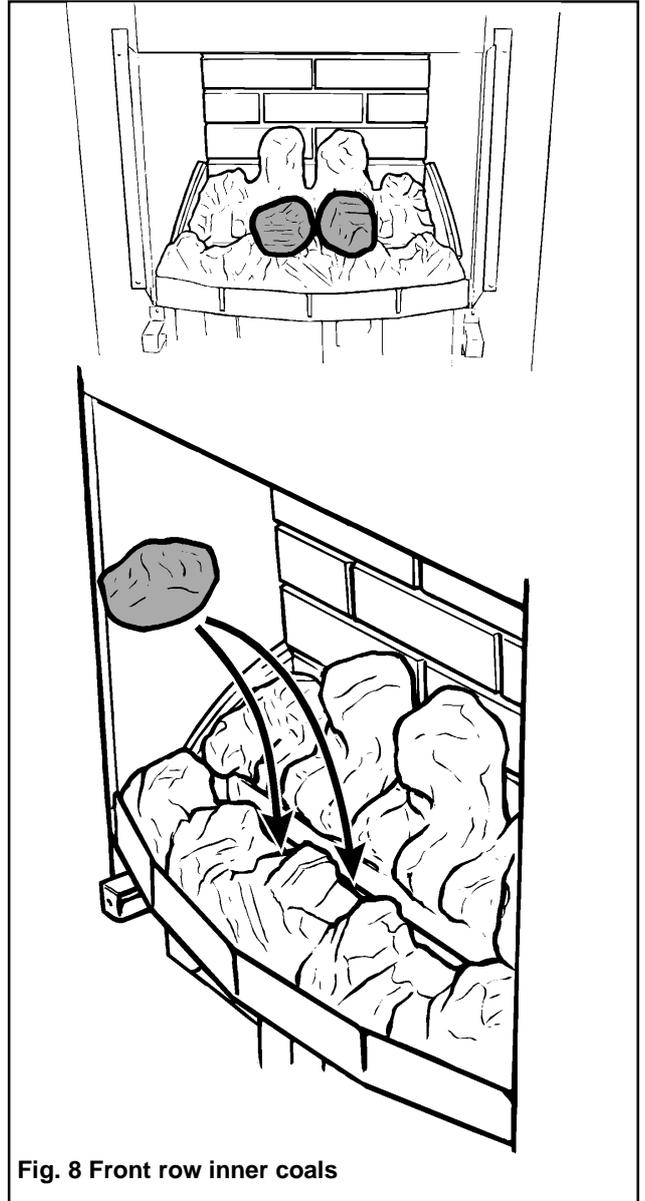

Fig. 8 Front row inner coals
- 5.1. Select the two largest coals Place them in the central two valleys of the front coal (See figure 8).